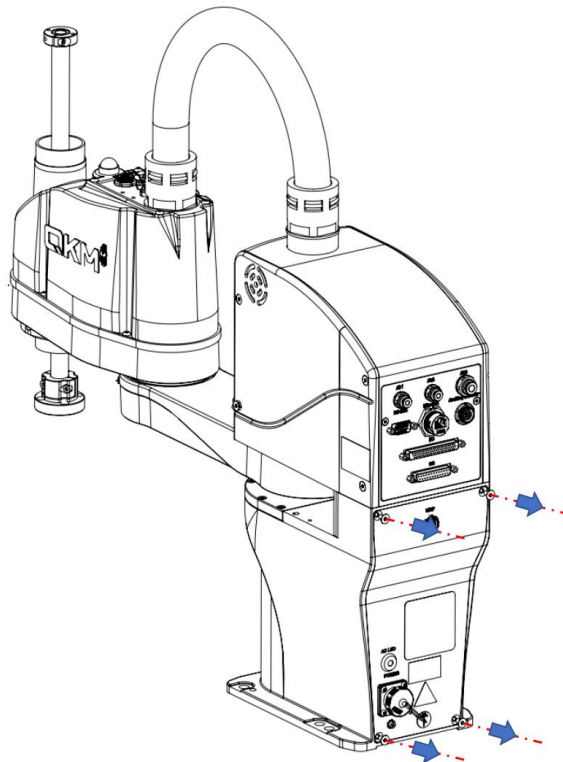

Figure 4-13 Removal of base interface panel
**Step 1** Use 3 mm Allen wrench to remove screws from the base interface panel of the robot, as shown in Figure 4-13.